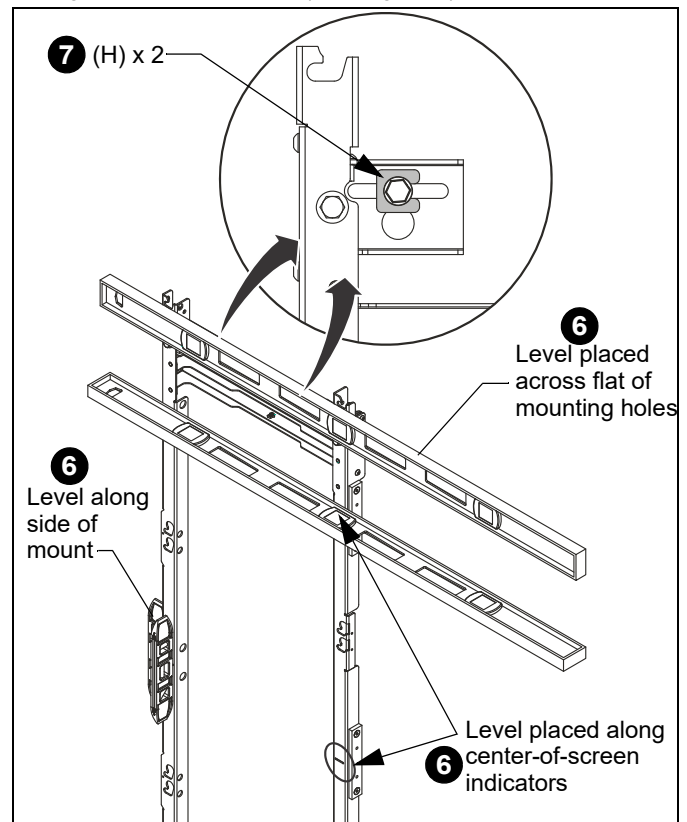

Figure 6
6. Lay levels across flat of the mounting holes and center-of-screen indicators, and vertically along side of mount to ensure wall mount is square and level. (See Figure 6)
7. Slide installation washers (H) behind head of fasteners and tighten mount in place. (See Figure 6)